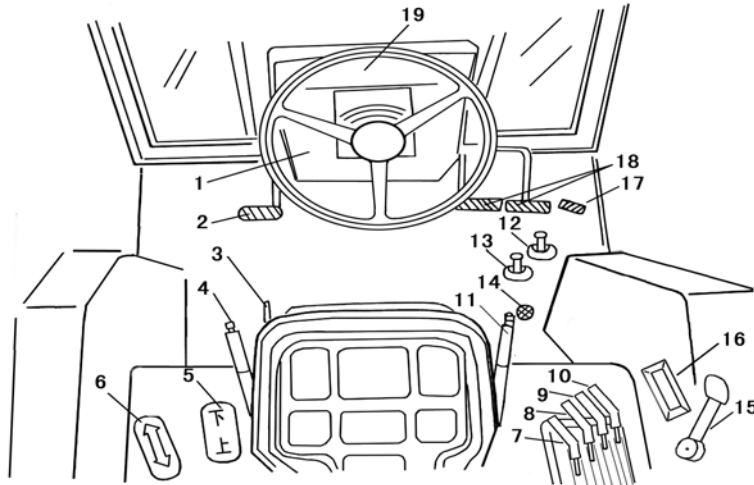

Fig.4-1 Control handles, pedals and control buttons
Refer to Fig.4-1 for operation handles, pedals and control buttons
(1) Do careful checks before starting. Right connection of engine and flexible throttle operation should get guaranteed. Fill up cooling fluid to make sure the engine oil level within a normal range, all pipe joints tightened and no leakage.
(2) Make master gear box operation 13, control handle of PTO shaft 5, and front driving control handle 6 at neutral gear while lifter operation handle 10 at the dropping position. (Fig.4-1)
(3) Pull block pin of choke wire “A” to release the ignition wire. Now fuel injection pump is supplying oil.
(4) Put the hand throttle operation handle 15 at the middle position (Fig.4-1).
(5) Insert key to the position “Off” on ignition switch “E” .
After engine is started, make it running for 5-10minutes until engine water temperature is above 60 °C , do as the following steps (Fig.4-1):
(1) Pull up lifter control handle 10 (Fig.4-1)to raise suspending implement.
(2) Step down the master clutch pedal 2 and put master and secondary gear levers 13 and 12 to needed gear levels.
(4) Hoot the horn and watch around against any barrier.
Usually, retard engine throttle 15 or 17 first, step down main clutch pedal 2, and then step down service brake pedal 18 gradually to make tractor stop there smoothly. (Fig. 4-1)